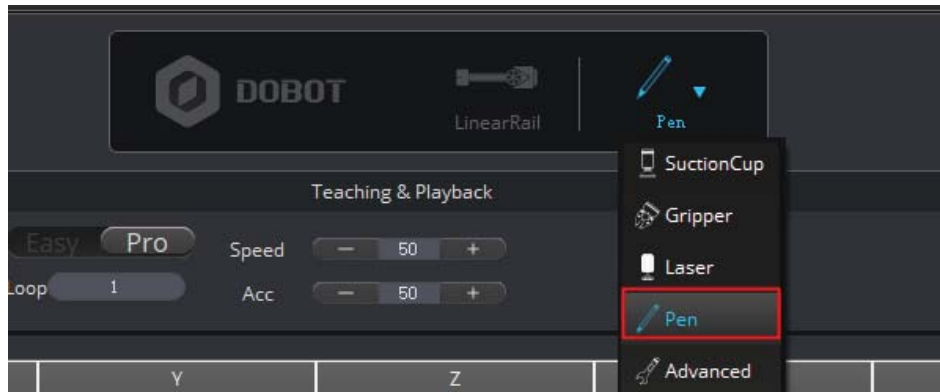

Figure 5.188 Select end-effector
Step 1 Select **Pen** from the end-effector drop-down list on the DobotStudio page, as shown in Figure 5.188.